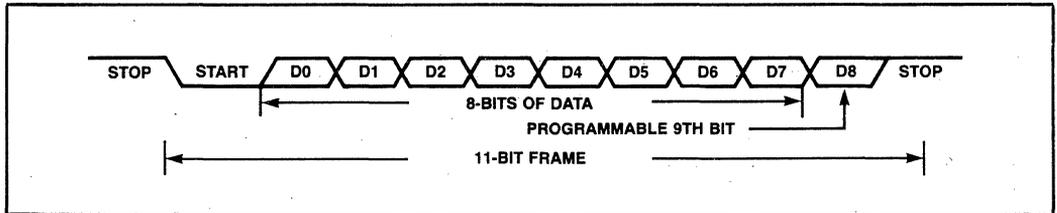

Figure 2-25. Serial Port Frame Modes 2 and 3
11-bit frames are transmitted through TXD and received through RXD: a start bit (0), 8 data bits (LSB first), a programmable 9th data bit, and a stop bit (1). On transmit, the 9th data bit can be assigned the value of 0 or 1. On receive, the received 9th data bit is stored and the serial port interrupt is activated regardless of its value. The data frame for Modes 2 and 3 is shown in Figure 2-25.